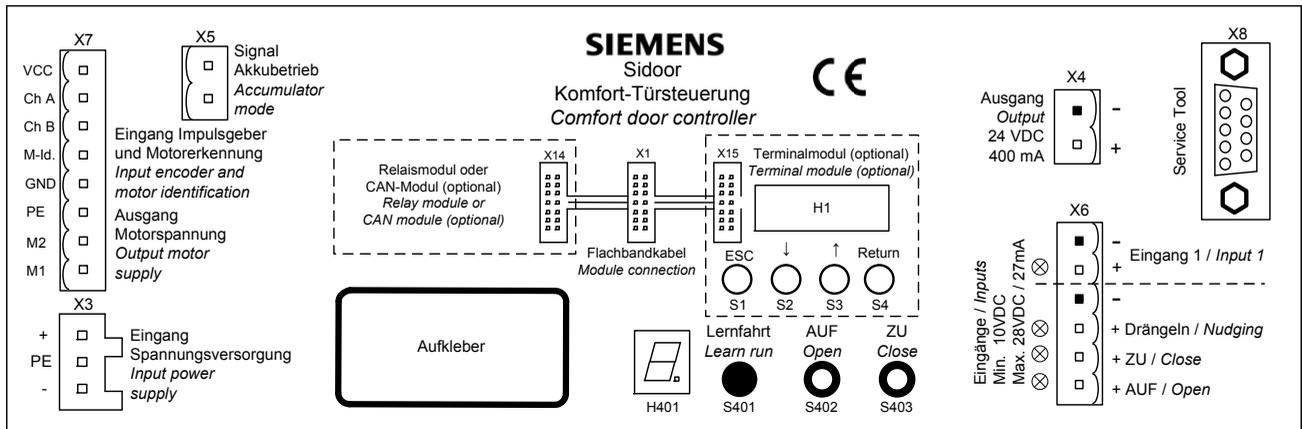

Figure 1
11. Connect the light barrier to X6 (see figure 1 or text on cover). If the light barrier input (input 1) is not used, X6 must be wired to X4 as indicated by the lines in the layout diagram. The sensor must be connected here if the DCPS function is used.